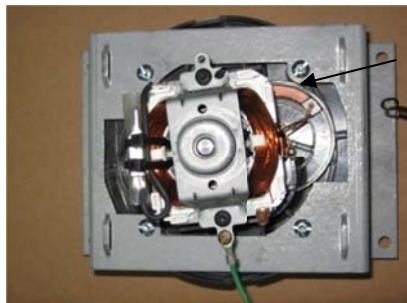

Figure 2” “Infinity” Motor
**THIS IS PARTICULARLY IMPORTANT FOR “INFINITY” MOTORS. If the bracket is installed incorrectly it may result in a short to ground for the brush contacting the bracket. The curved brush must be visible in the large cutout as per Figure 2.**